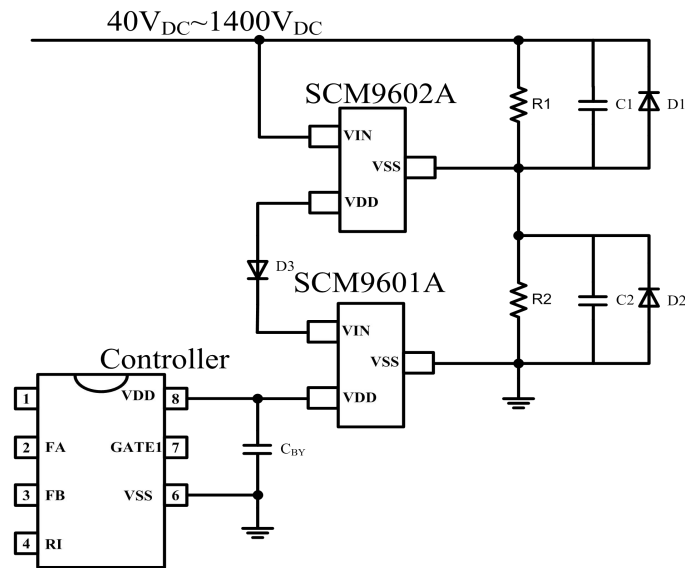

Fig. 7 Input 40V_{DC}~1400V_{DC} application circuit (SCM9601A and SCM9602A are used in series)
2. When applied to a higher input voltage range, it is recommended to use our SCM9602A, please refer to Fig.7. C1 and C2 are input high-voltage storage capacitors to slow the fluctuation of input voltage; R1 and R2 are equalization Resistance, avoiding the uneven voltage problem caused by the difference between C1 and C2 leakage current; D1, D2 and D3 are used to solve the current backflow problem caused by the large difference between C1 and C2 leakage current.